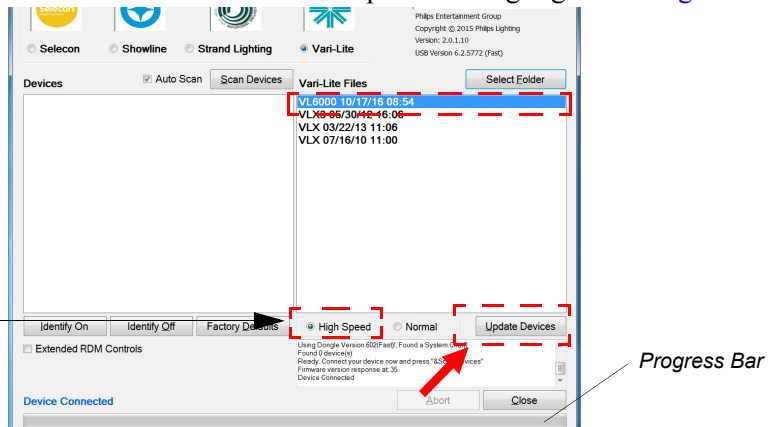

Figure 3-5: bin File Selection
Step 7. When the LED Driver Board requires updating, a new VL1100LED_XXXXXX_First.bin file will need to be updated first. Click on the bin file to be updated as highlighted in Figure 3-5.
Step 8. As indicated in Figure 3-5, click on Update Devices to start upload.
VL1100_XXXXXX_Second.bin file. Click on the bin file to be updated as highlighted in Figure 3-5.
- Step 10. As indicated in Figure 3-5, click on Update Devices to start upload.